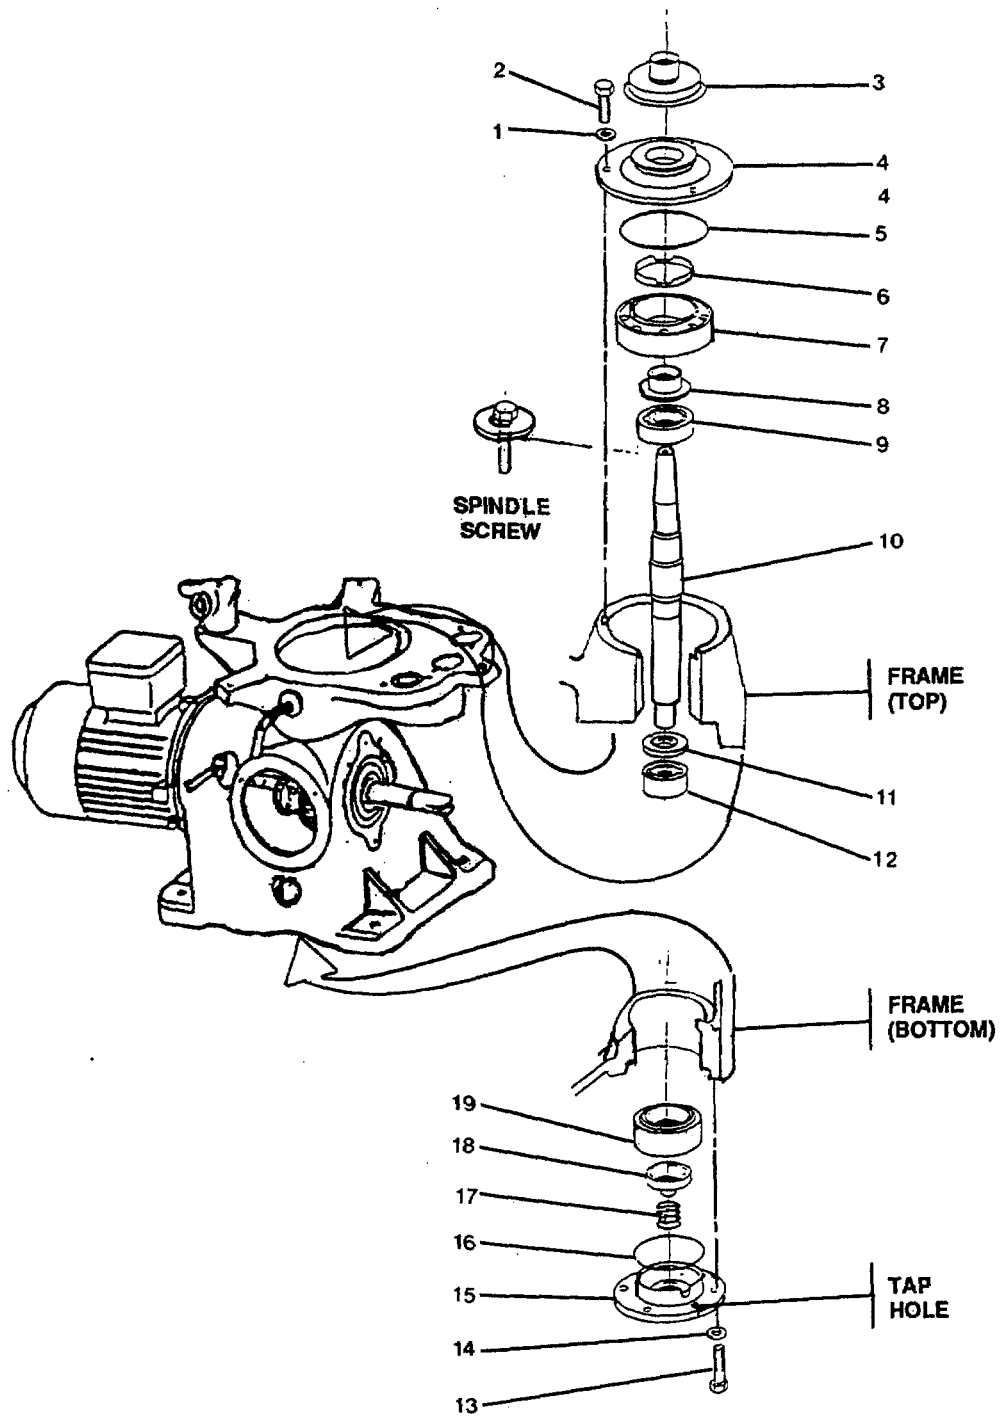

FIGURE 3-11. *Vertical Gear Assembly.*
Refer to Figure 3-11 for the remaining removal procedures.
- a. Use arbor press to install ball bearing protection ring (11, Figure 3-11) followed by annular ball bearing (12) on worm spindle bottom and grooved ball bearing (9), followed by sleeve (8) over worm spindle.
- b. Use arbor press to install spherical plain bearing (19) to bottom frame.
- c. Position bushing (7) and distance ring (6) over sleeve (8) and grooved ball bearing (9).